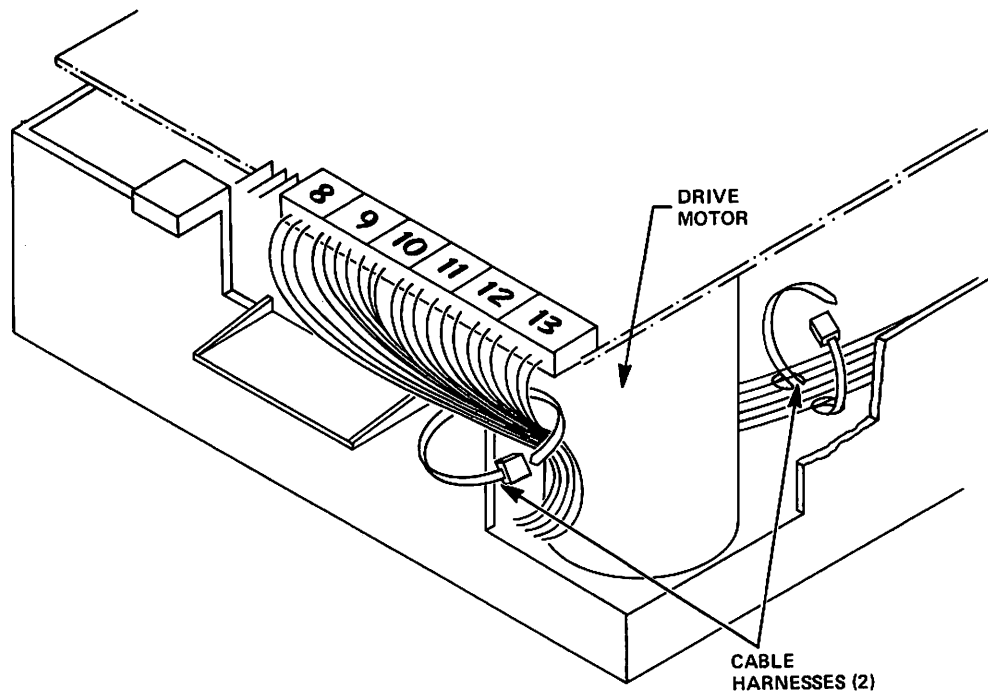

Figure 5-25
5.12.4 Cut the harness that attaches the Write Protect Switch Assembly cables and the Activity LED Assembly cables to the bottom of the chassis (see Figure 5-25).
5.12.5 Cut the harness that attaches the Write Protect Switch Assembly and the Activity LED Assembly cables to the bundle of wires that go to the PCBA (see Figure 5-25).
5.12.9 After smoothing out the Write Protect Switch Assembly cables and the Activity LED Assembly cables, harness them to the bottom of the chassis, routing the wires between the Drive Motor Assembly and the Track 00 Switch Assembly (see Figure 5-25).
5.12.10 Harness the bundle of wires at the back of the disk drive, including the new Write Protect Switch Assembly cables in the bundle (see Figure 5-25).